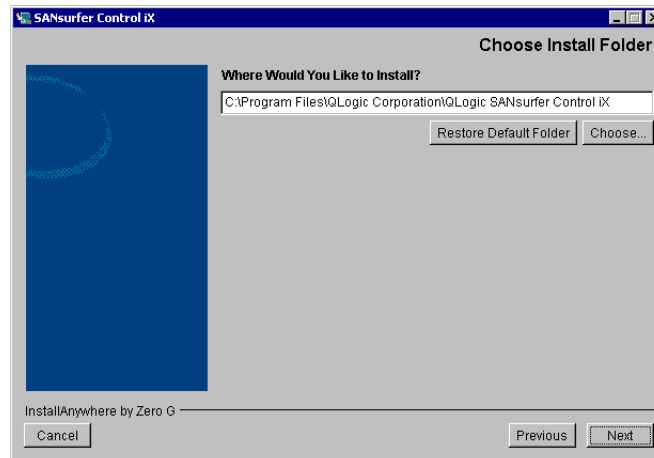

Figure 6-2. Choose Install Folder Dialog Box
4. The **Choose Install Folder** dialog box displays (see figure 6-2). Click **Next** to accept the default directory.